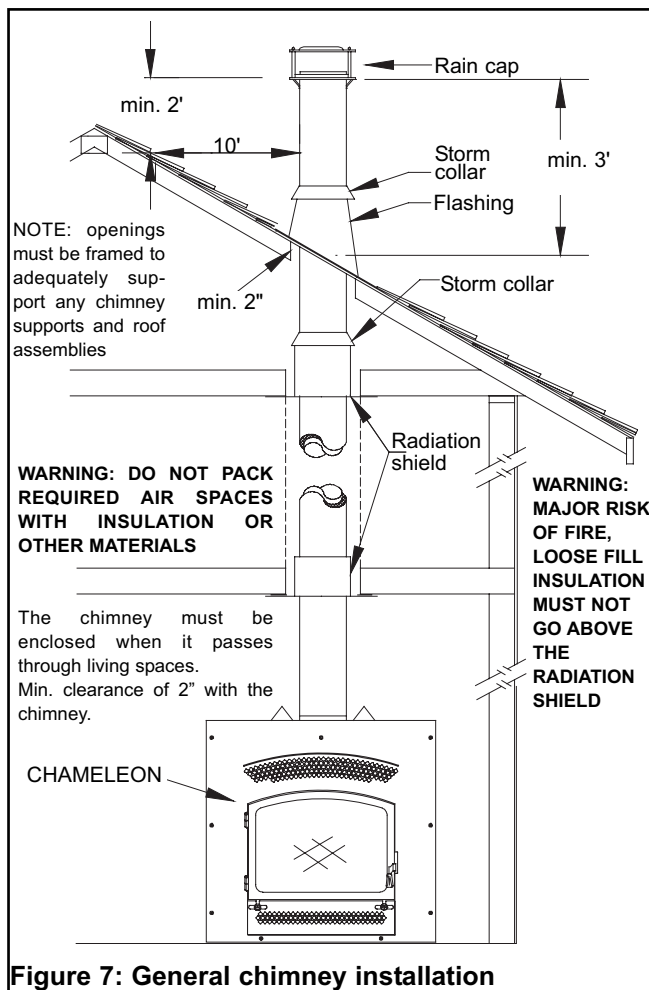

Figure 7: General chimney installation
- From below, install a radiation shield in each floor through which the chimney passes. At the attic level, install a radiation shield and a storm collar as shown in Figure 7.
NOTE: In **USA** if the chase is enclosed or flashed to the roof as shown in Figures 7, 9 and 10, then the flashing must be vented.